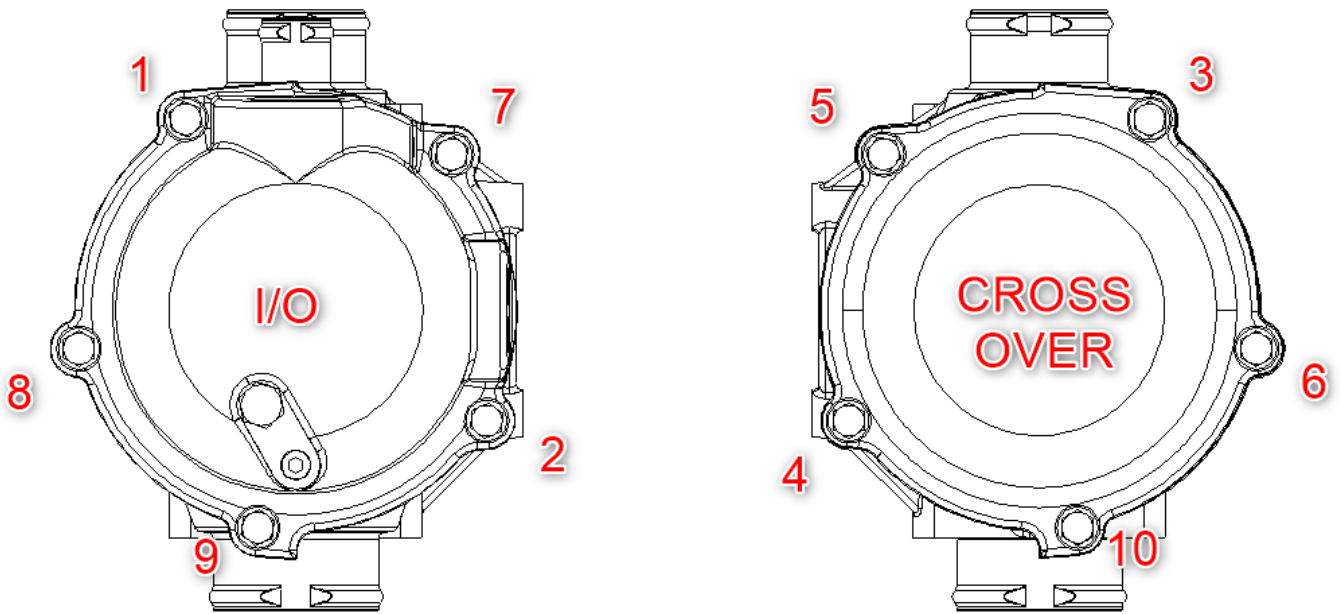

Figure 1-2
- 5.2.9. Properly torque the Crossover End Cap Bolts and IO End Cap Bolts to 31 FT-LBS in the sequence shown in figure 1-2.